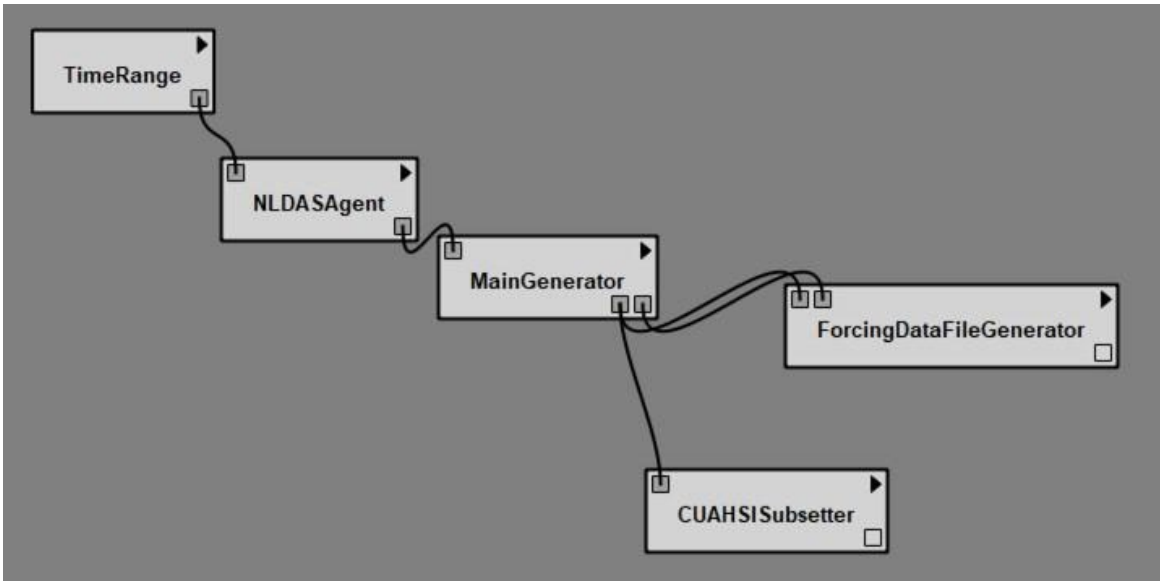

Figure 88. The workflow connecting the MainGenerator and CUAHSISubsetter module
9. Connect the outputs of the **MainGenerator** to the input ports of the **CUAHSI Subsetter** and **ForcingDataFileGenerator** components as shown in Figure 88.